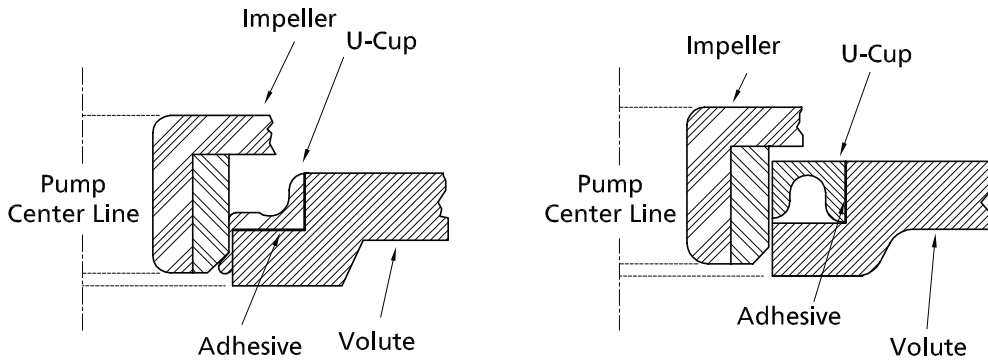

FIGURE 6
Outer Seal (All Units) - To expose shaft seal (28) for examination, disassemble volute and impeller as outlined in paragraph F-2.1. If further repair is required, remove retaining ring (28d), spring (28c) and rotating member (28b) from shaft (see Figures 6 & 7). Examine all seal parts and especially contact faces. Inspect seal for signs of wear such as uneven wear pattern on stationary members, chips and scratches on either seal face. **DO NOT** interchange seal components, replace the entire shaft seal (28). If replacing seal, remove stationary (28a) by prying out with flat screwdriver.